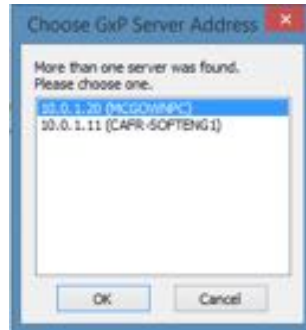

Figure 4-35: ForteBio FB Server Address Dialog Box
- **Remote host on same subnet**—If the ForteBio FB Server module is hosted on the same subnet, deselect the **Localhost** check box and click **Find**. A list of potential ForteBio FB Server module addresses will be listed (Figure 4-35). Choose the desired location from the list and click **OK**.